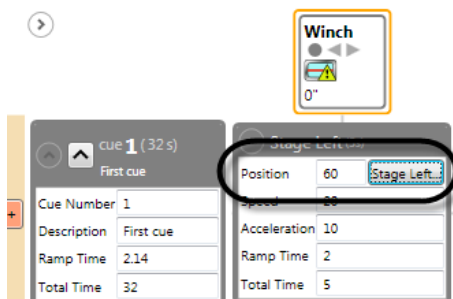

Figure 216
8. The selected Spike will display in the motor's movement for the cue (Figure 216). *In the example below, the Winch will move to the defined Spike—"Stage Left 60"—in Cue 1.*